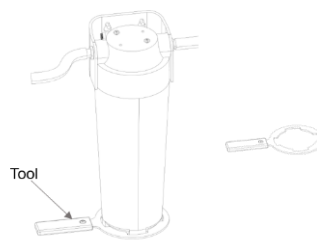

FIG.25
3. Remove the filters using the tool which is located above the filter system as shown in FIG .25.